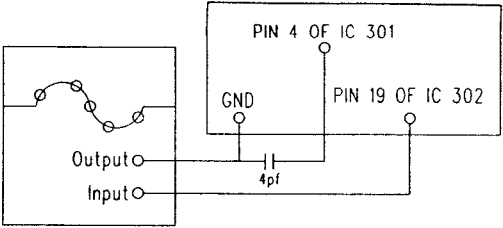

Fig 1-4
- FM IF OUTPUT : PIN NO . 19 of IC 302(TA8132AN) - Freference next page (FIG 1-4)